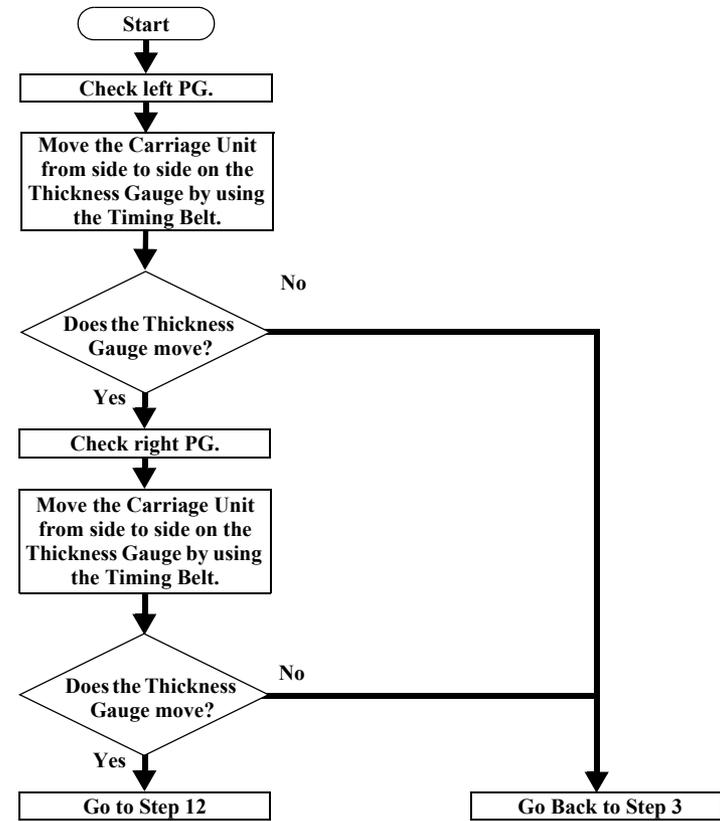

Figure 3-12. PG Checking (2)
- Check PGs on both the left and right according to the flowchart in the Figure 3-12.
- After securing, check PGs on both the left and right again according to the flowchart in the Figure 3-12.